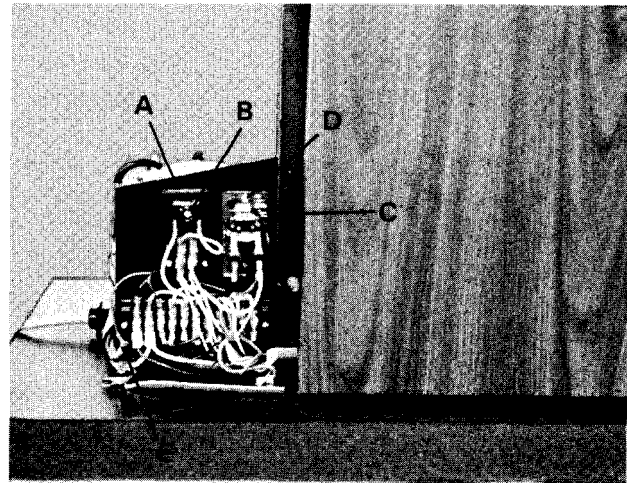

Fig. 29
The time delay relay, Item A, Fig. 29 delays the opening of the cylinder solenoids for 1/10 of a second to avoid momentary drop in up actuations.
- 2) Remove defective time delay relay by removing (1) nut and (1) screw, Item B, Fig. 29.
- 3) Place new time delay relay in position, align holes, and install (1) #6-32 hex nut and (1) #6-32 x 1" pan, head screw, Item B, Fig. 29.
The GLIM, Item C, Fig. 29 will prevent application of line voltage to the table if the power cord is connected to a reverse polarity AC supply or to an AC supply without ground. A table equipped with a **GLIM CAN BE USED ONLY** on a 3-wire, grounded, non-isolated AC supply.
- 2) Remove defective GLIM by removing (2) nuts, spacers, and screws, Item D, Fig. 29.
- 3) Place new GLIM in position, align holes, and install (2) #6-32 hex nuts, (2) 1/4" spacers, and (2) #6-32 x 3/4" screws, Item D, Fig. 29.
4) Remove the (7) wires of the footswitch cord from the terminal board.
7) Remove the green grounding wire from the motor base by removing (1) screw, Item E, Fig. 29.
16) Attach green grounding wire to motor base by installing (1) #10-24 x 3/4" screw, Item E, Fig. 29.
17) Install the black and white wires of the power cord and receptacle, the black and white wires of each cylinder, and the (7) wires of the footswitch cord on the terminal board. See Wiring Diagram on Page 27.